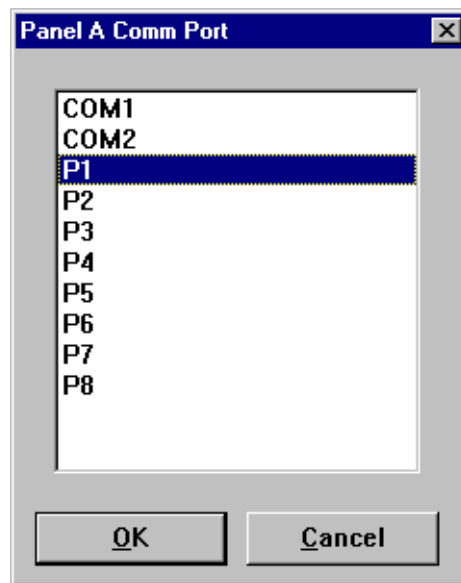

Figure 46. Comm Port dialog box
2. Choose **Controller | Comm Port** to open the Controller Setup dialog box. An example of this dialog box is shown in Figure 46.
9. Choose **Controller | Comm Port** to open the Communication Port dialog box (see Figure 46 on page 74).